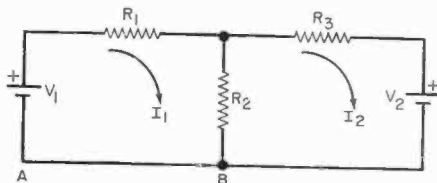

Fig. 7
Ex. 8. Figure 7 shows a two-mesh or two-loop network with the assumed clockwise direction of current flow in each mesh indicated. Write the necessary equations to solve for the two currents. Sol. For the first mesh, beginning at point A, the voltages are $-V_1 + (R_1 + R_2)I_1 - R_2I_2 = 0$ (Eq 1). For the second mesh, starting at point B, $-R_2I_1 + (R_2 + R_3)I_2 + V_2 = 0$ or $-V_2 = -R_2I_1 + (R_2 + R_3)I_2$ (Eq 2). Equations (1) and (2) constitute a pair of simultaneous equations. Terms $R_1 + R_2$ and $R_2 + R_3$ are the self resistance of meshes 1 and 2, respectively; term R_2 is the mutual resistance linking the two meshes.
Ex. 9. If, in Ex. 8, $R_1 = 1$ ohm, $R_2 = 2$ ohms, $R_3 = 4$ ohms, and $V_1 = V_2 = 6$ V, solve for I_1 , I_2 , and the voltage across each resistor. *Sol.* Substituting the given values in Eqs (1) and (2), we get $6 = 3I_1 - 2I_2$ (Eq 3) and $-6 = -2I_1 + 6I_2$ (Eq 4). Equations (3) and (4) may be solved for I_1 and I_2 in a number of ways. If, for example, we multiply Eq (3) by 3 and add the result to Eq (4), we have $12 = 7I_1$ or $I_1 = 12/7$ A. Substituting this value in Eq (4) and solving, $I_2 = -3/7$ A. The negative sign denotes that I_2 actually flows in a direction opposite to that assumed in Fig. 7. The voltage across R_1 is $V = (12/7)1 = 12/7$ V; across R_2 , $V = (12/7 + 3/7)2 = 30/7$ V; and across R_3 , $V = (-3/7)4 = -12/7$ V.